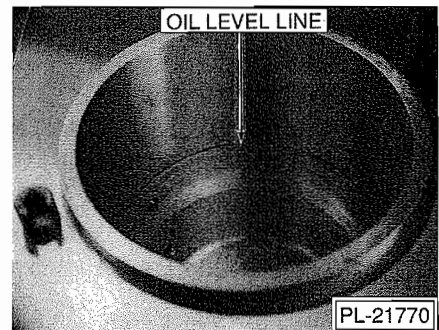

Fig. 13
- If shortening is hot, fill kettle to oil level line (Fig. 13).